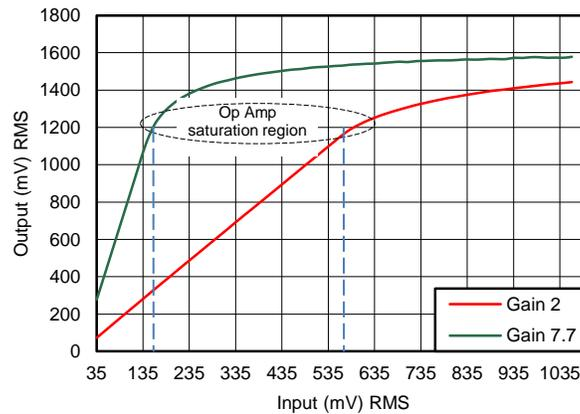

Figure 8. Saturation Level of Op-Amp Outputs for Gain 2 and Gain 7.7
**NOTE:** All the voltages mentioned in Figure 8 through Figure 12 are Root Mean Square Values (RMS).